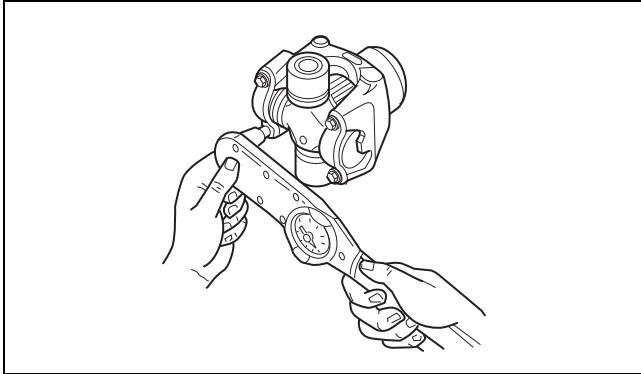

Figure 8.30
- Use a torque wrench to alternately tighten the capscrews to Meritor’s driveline torque specification. Figure 8.30. **ⓘ**